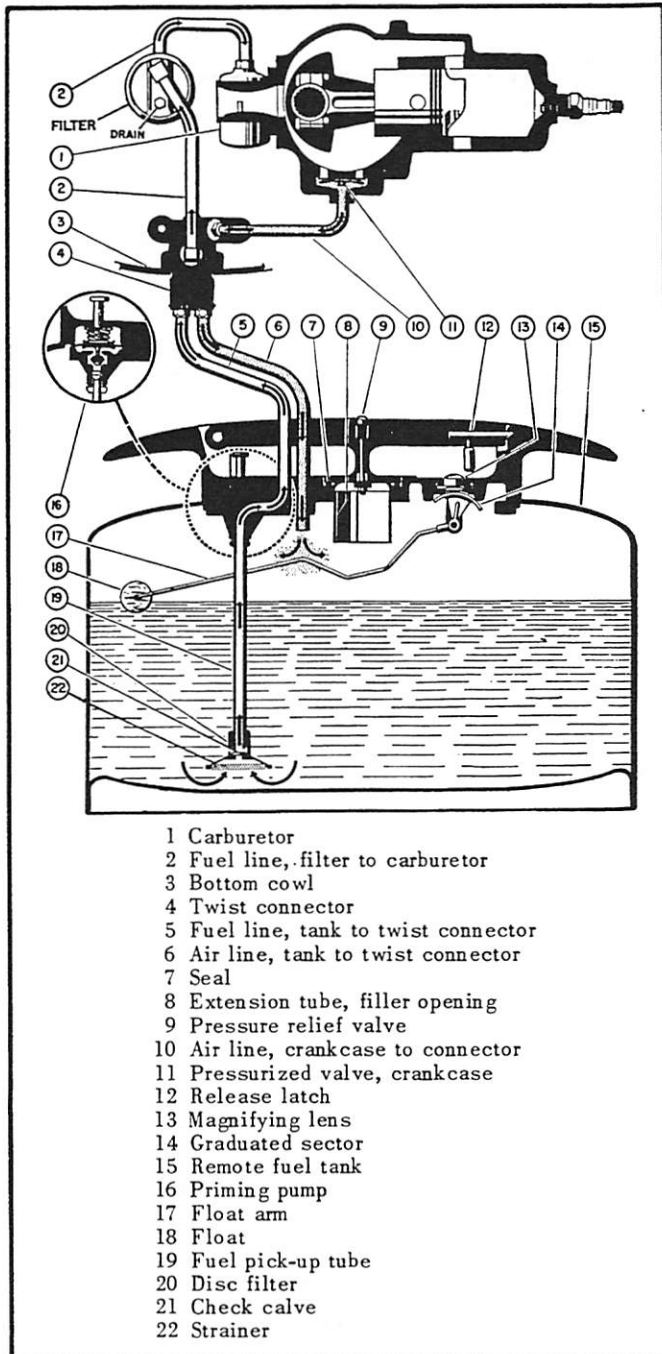

Figure 1. Pressure Fuel System
1. Schematic flow of fuel is conducted thru component parts of fuel system. (Figure 1)
3. Initial fuel consumed and pressure being built up will cause primer regulator valve to drop down and allows fuel to enter thru strainer inlet in tank. (Refer to item 22 in Figure 1.)